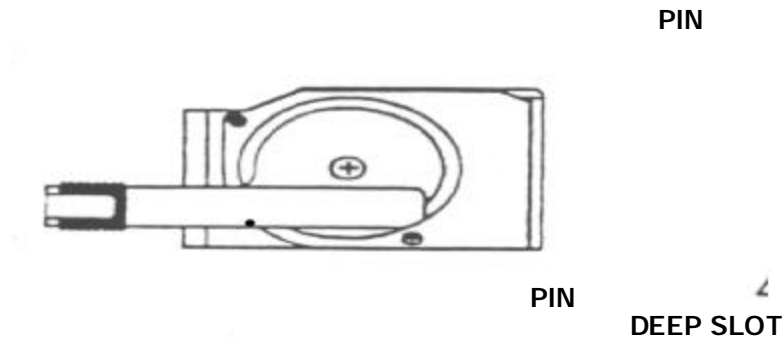
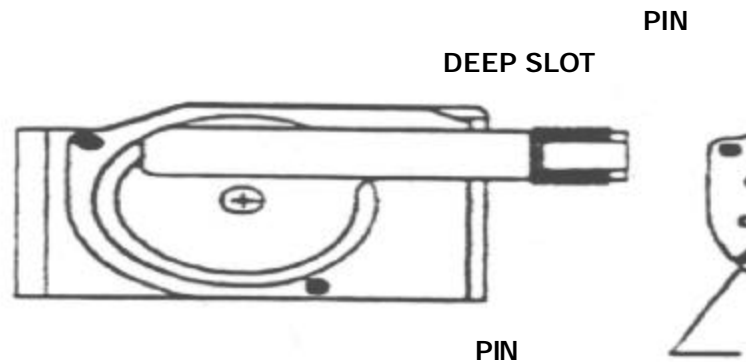

Figure 3
Figure 4 As Shipped
(4) If inertia reel is mounted to the floor figure 3 shows the correct position of the control head assembly. If inertia reel is mounted to the back of the seat figure 4 shows the correct position of the control head assembly (as shipped). Lift off the adapter ring and replace it in the position shown in that figure. Replace the control head assembly in the new orientation ensuring the locator pin is properly engaged in the end cover. Replace the screw.
(5) Using a small screwdriver or allen wrench, push the slider all the way into the tube and pull back out to original position. If it moves, the reorientation has been properly accomplished.